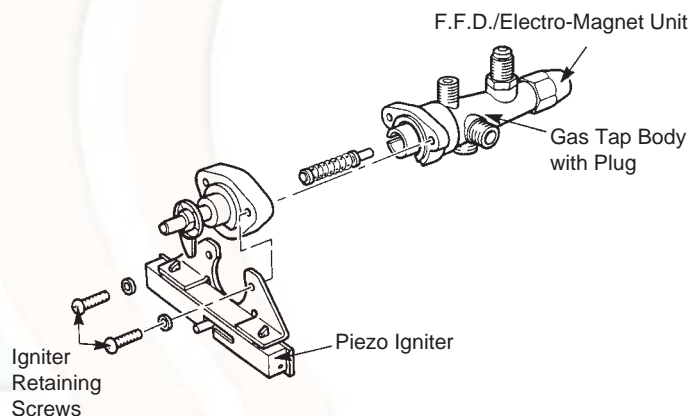

Fig. 12 Gas Control Tap/Flame Failure Device
1. GAS CONTROL TAP / FFD / PILOT FILTER (Fig.12)
8. PIEZO UNIT (Fig.12)